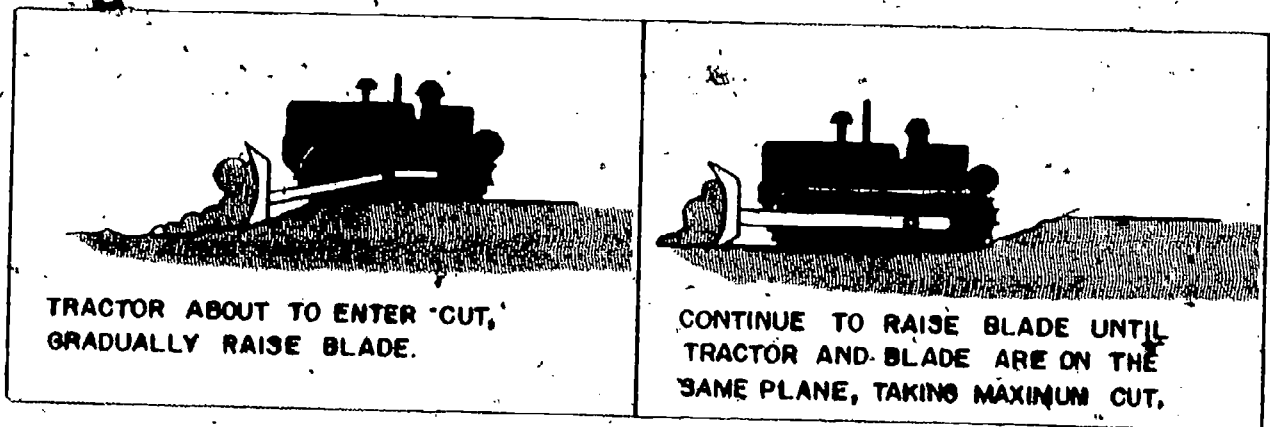

Fig 4-21. Steps in starting a cut.
- (1) All of the dozers you will operate in the Marine Corps are hydraulically operated. One key factor in blade control is the speed with which the blade control lever is moved from the hold position to either the raise or lower position, and back to the hold position. The faster you move the lever, the less the blade will move up or down. With the tractor moving forward, the operator should gradually feed (lower) the dozer blade into the ground until it starts to cut. This should be done by lowering the blade in small amounts, until the engine starts to labor. Then raise the blade in small amounts, until the engine ceases to labor. At this time your tractor and the blade should be on the same plane, and you will be taking the maximum possible cut.
- (2) Another key factor to watch for here is the point at which the tractor tilts forward into the path cut by the blade. The blade must be raised in small amounts so that both tractor and blade will be on the same plane (fig 4-21). Remember: it is easier to control a fully loaded blade than a partly loaded one.